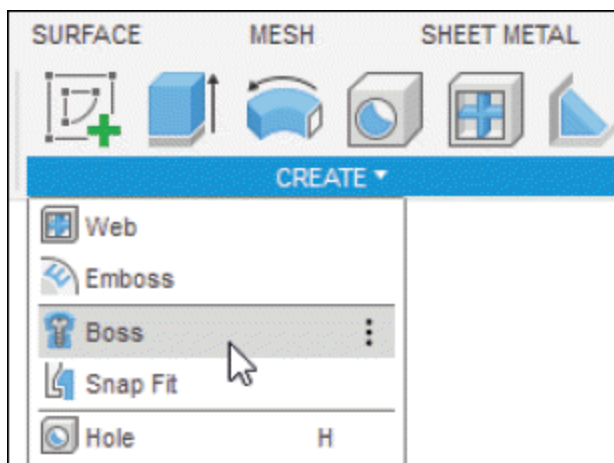
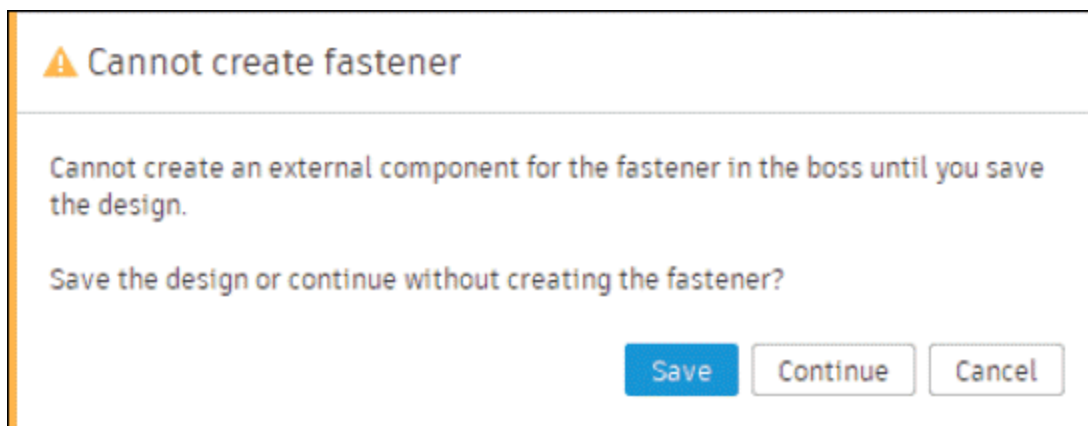

Figure-151. Boss tool
Figure-152. Cannot create fastener pop up window
- Click on the **Boss** tool from **CREATE** panel in the **PLASTIC** tab of the **Toolbar**; refer to Figure-151. If your model is not saved yet then the **Cannot create fastener** pop-up window will be displayed asking you to save the design to create fastener or continue without creating the fastener; refer to Figure-152.